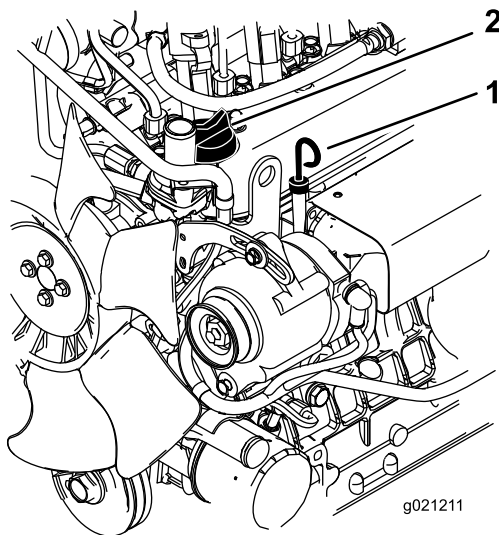

Figure 26
3. Remove the dipstick, wipe it clean, and install it (Figure 26).
5. If the oil level is below the Full mark, remove the fill cap (Figure 26) and add oil until the level reaches the Full mark on dipstick. **Do not overfill the crankcase.**